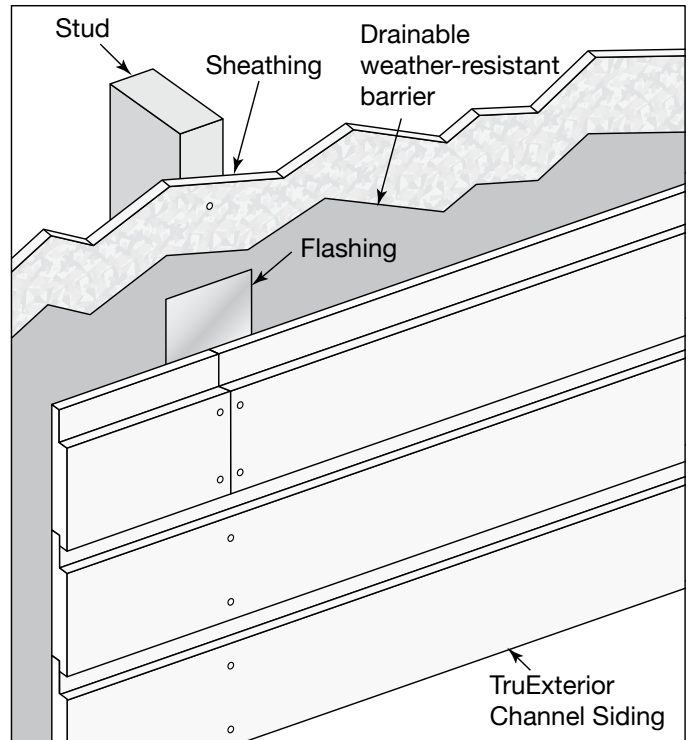

Fig. 4a
- For 6" and 8" profiles use 2 fasteners per every framing member. At least one fastener should be through the face of the profile, simply fastening the product through the tongue alone is not sufficient (**Fig. 4a & 4b**).